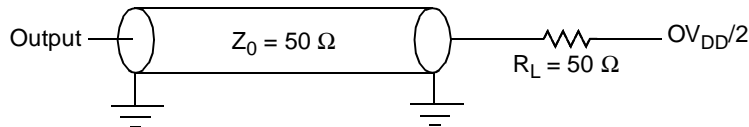

Figure 21. AC Test Load for the JTAG Interface
- All outputs are measured from the midpoint voltage of the falling/rising edge of t_{CLK} to the midpoint of the signal in question. The output timings are measured at the pins. All output timings assume a purely resistive 50 Ω load (see Figure 21). Time-of-flight delays must be added for trace lengths, vias, and connectors in the system.
- The symbols for timing specifications follow the pattern of $t_{\text{(first two letters of functional block)(signal)(state)(reference)(state)}}$ for inputs and $t_{\text{(first two letters of functional block)(reference)(state)(signal)(state)}}$ for outputs. For example, $t_{\text{JTDV KH}}$ symbolizes JTAG device timing (JT) with respect to the time data input signals (D) reaching the valid state (V) relative to the t_{JTG} clock reference (K) going to the high (H) state or setup time. Also, $t_{\text{JTDX KH}}$ symbolizes JTAG timing (JT) with respect to the time data input signals (D) went invalid (X) relative to the t_{JTG} clock reference (K) going to the high (H) state. In general, the clock reference symbol is based on three letters representing the clock of a particular function. For rise and fall times, the latter convention is used with the appropriate letter: R (rise) or F (fall).
Figure 21 provides the AC test load for TDO and the boundary-scan outputs of the MPC8343E.